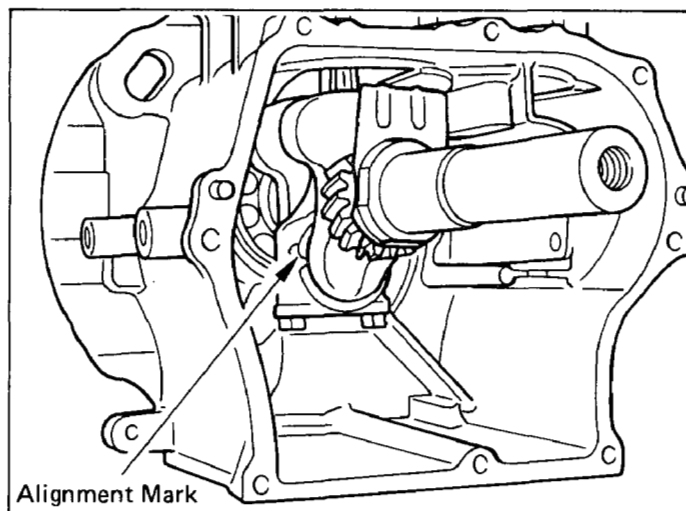

Fig. 26
- 2) When reassembling the connecting rod cap, match the alignment projection mark on the rod. (See Fig. 26.)